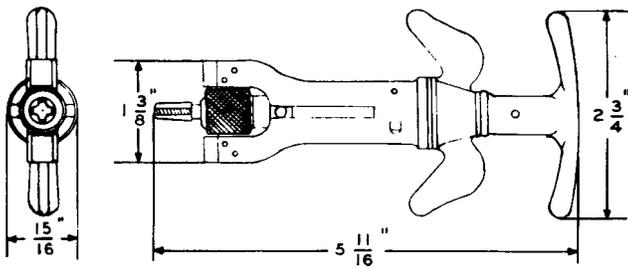

Fig. 3—407A Sleeve Remover Tool
2.05 407A: The 407A sleeve remover tool (Fig. 3) is used in removing worn sleeves of 49- and 141-type jacks. This tool replaces the 123 sleeve remover tool.